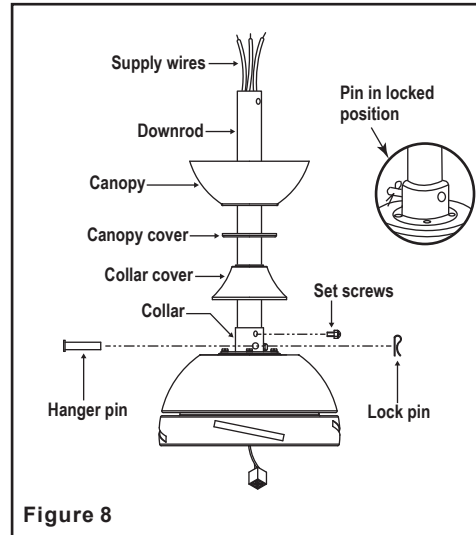

Figure 8
**Step 6.** Remove the hanger pin, lock pin and set screws from the top of the motor assembly. (Fig. 8)
**Step 7.** Route the wires exiting from the top of the fan motor through the collar cover, canopy cover and canopy and then through the downrod. (Fig. 8)
**Step 8.** Align the holes at the bottom of the downrod with the holes in the collar on top of the motor housing (Fig. 8). Carefully insert the hanger pin through the holes in the collar and downrod. Be careful not to jam the pin against the wiring inside the downrod. Insert the locking pin through the hole near the end of the hanger pin until it snaps into its locked position, as noted in the circle inset of Fig. 8.
**Step 9.** Tighten two set screws on top of the fan motor firmly. (Fig. 8)